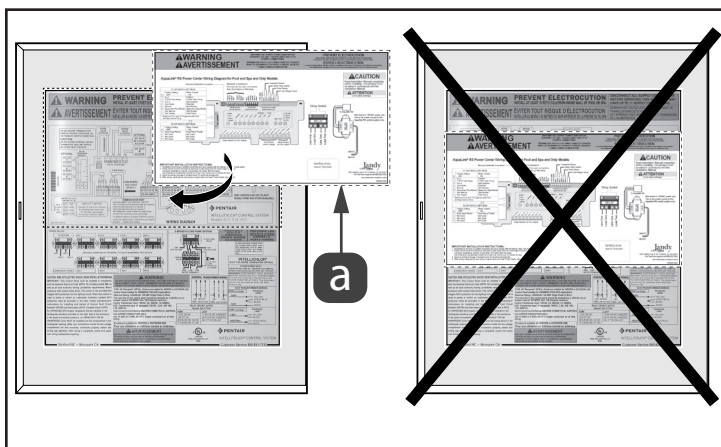

Figure 12. Warning Label
1. Place AquaLink RS Conversion wiring diagram label over existing Pentair® wiring diagram on the inside of the enclosure door. DO NOT COVER EXISTING PENTAIR WARNINGS OR RATING INFORMATION, see Figure 12(a).